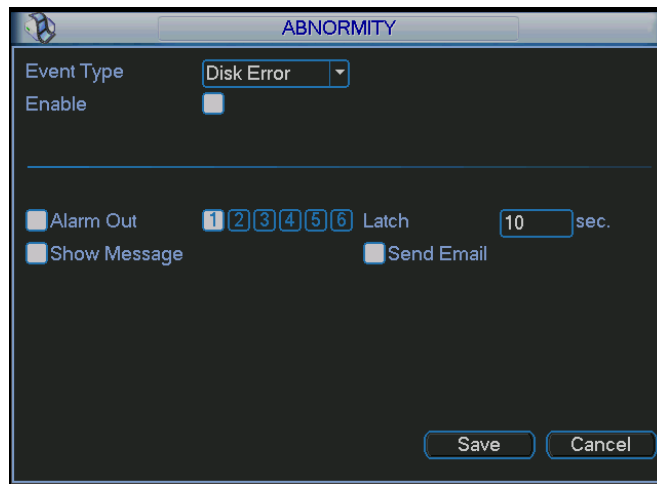

Figure 5-83
- Alarm set: Click alarm set button, the interface is shown as below. See Figure 5-83. (This interface is just like the abnormality setup). Please refer to chapter 5.7.2 for detailed information.